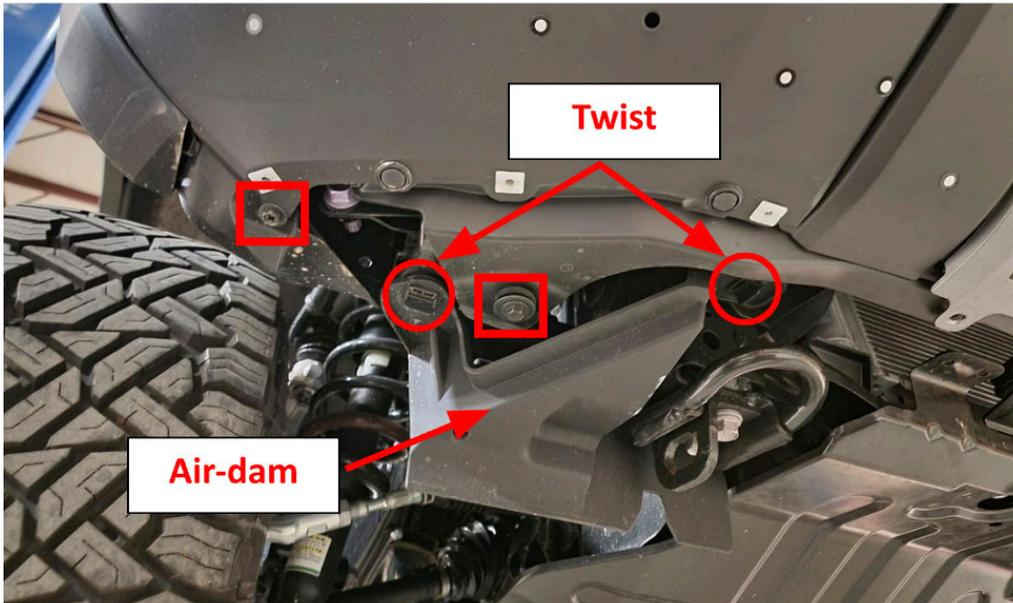

Figure 6.
5. Remove the smaller inner air-dams by removing the two (2) twist pins. Using a 10mm socket wrench, remove the two (2) screws at the lower portion of the bumper wings. Figure 6.